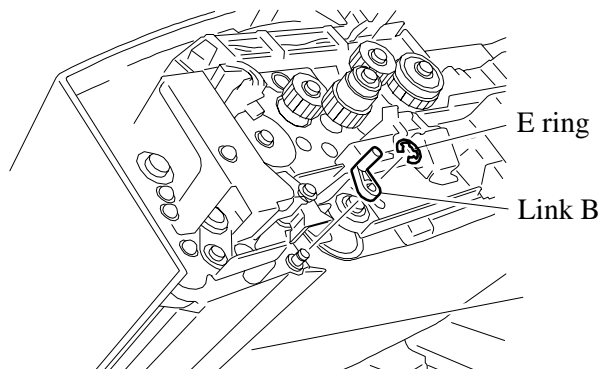

Fig. 5
- 4) Remove the E ring, and replace link B (Fig. 5).